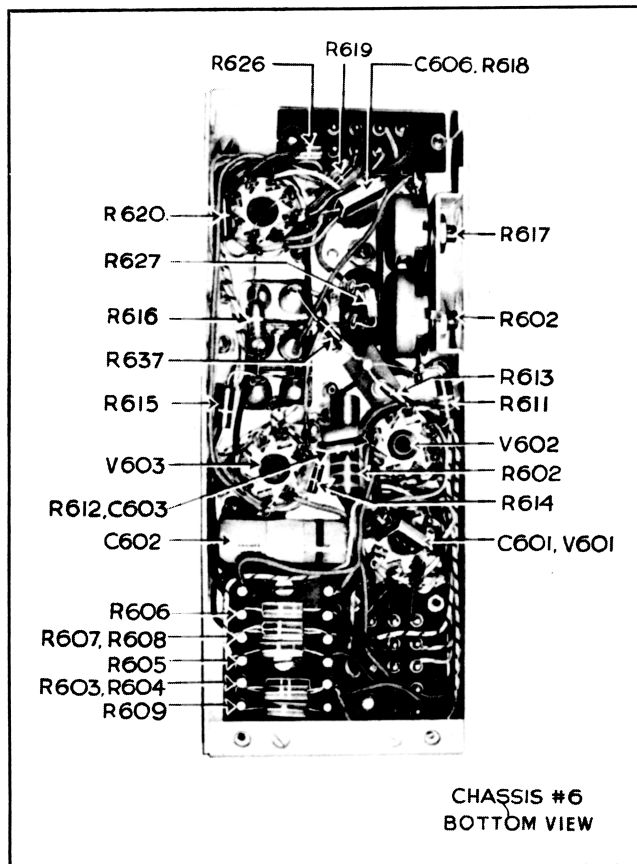

Figure 4-25. Chassis No. 6—Bottom View
(1) The sweep chassis provides a circuit capable of forming sawtooth waveforms with rates from 35 to 40,000 cycles per second. (See figs. 4-25 and 4-26.) A square wave is first generated by a multivibrator which excites a pulse shaper tube. The sawtooth is formed in the cathode circuit of the pulse shaper. (See figs. 4-27 and 4-28.) This tube normally conducts and is cut off by the multivibrator, whereupon the RC circuit yields approximately sawtooth waveforms.